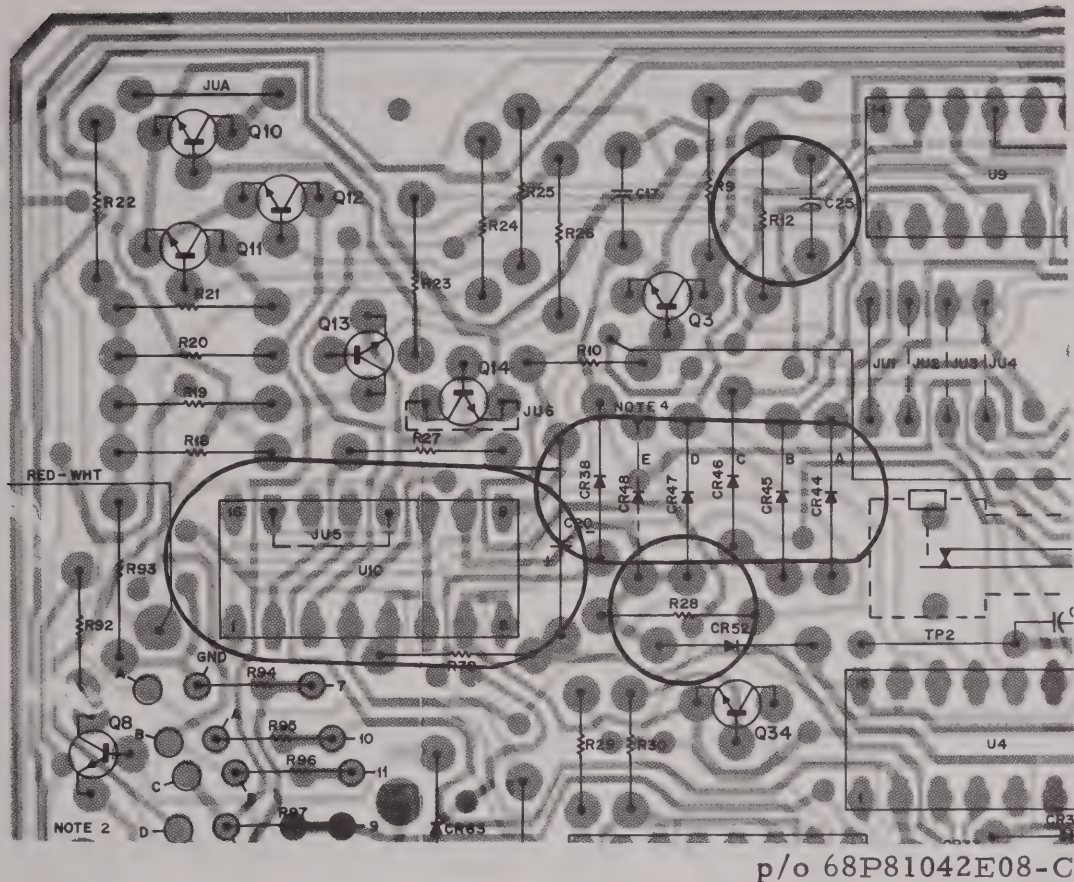

Figure I-1. Cradle Circuit Board Partial Diagram
3. In order to reset properly, IC U10, and resistors R12 and R28 must be in (see Figure I-1), and diodes CR44 through CR48 must